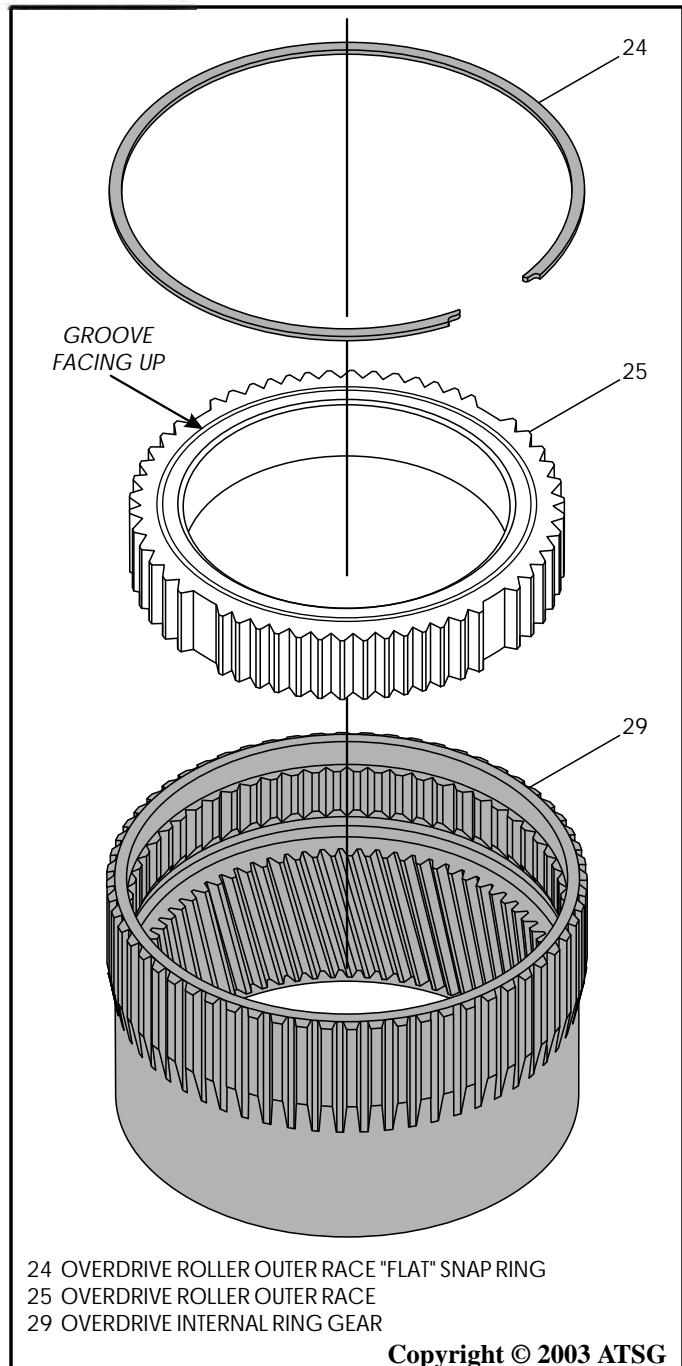
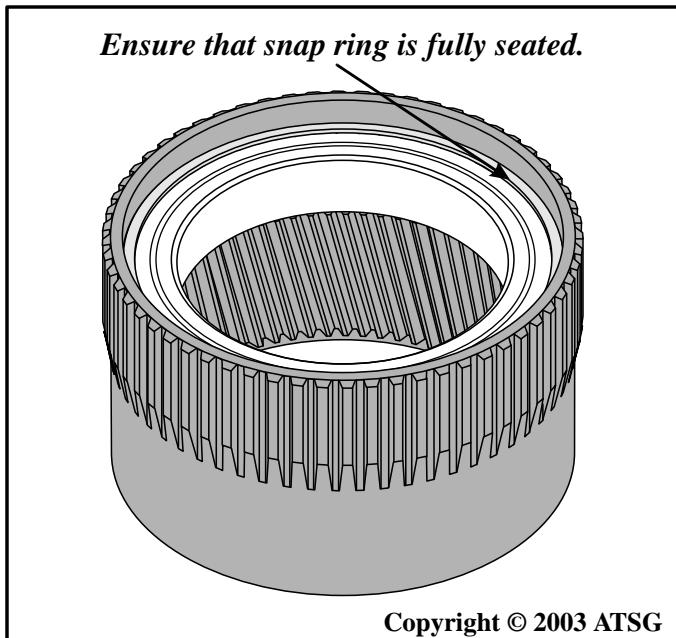

Figure 141
Figure 142
4. Position the overdrive ring gear on a flat work surface, as shown in Figure 141.
5. Install overdrive roller clutch outer race into overdrive ring gear, as shown in Figure 141.
Note: Groove in outer race must face up, as shown in Figure 141.
6. Install the **flat** snap ring into the groove in ring gear, as shown in Figure 141, and ensure that it is fully seated, as shown in Figure 142.